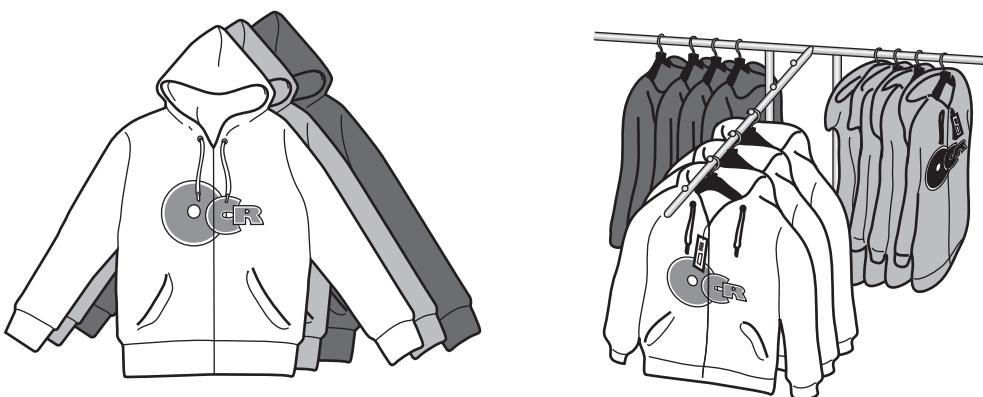

Fig. 1
- 2 Fig. 1 shows hooded tops. They have a decorative design embroidered on the front.